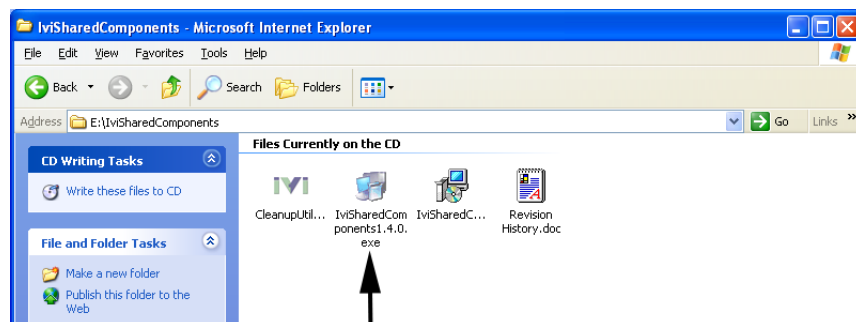

Fig.2-6 IVISharedComponents installation
- 13 Return to the browser window shown in Fig.2-6 and click the **Back** button.